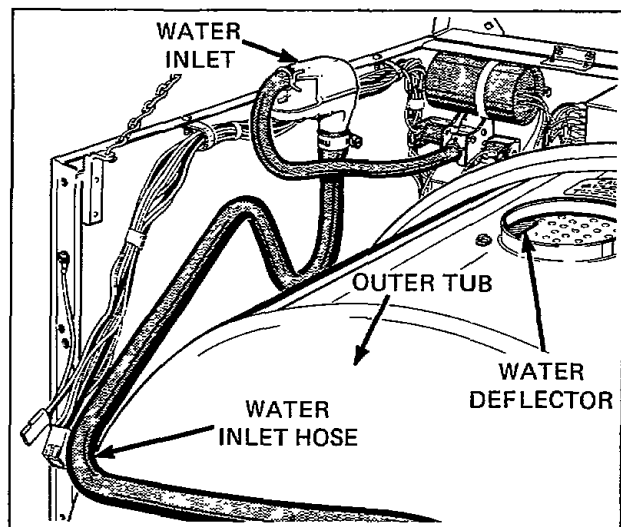

Figure 36
- h. Disconnect water inlet hose from water inlet, *Figure 36*, and hose from pressure switch.
- j. Starting with serial number 34K36: Remove two screws holding water deflector to outer tub, *Figure 36*, and lift deflector out through dispenser opening.